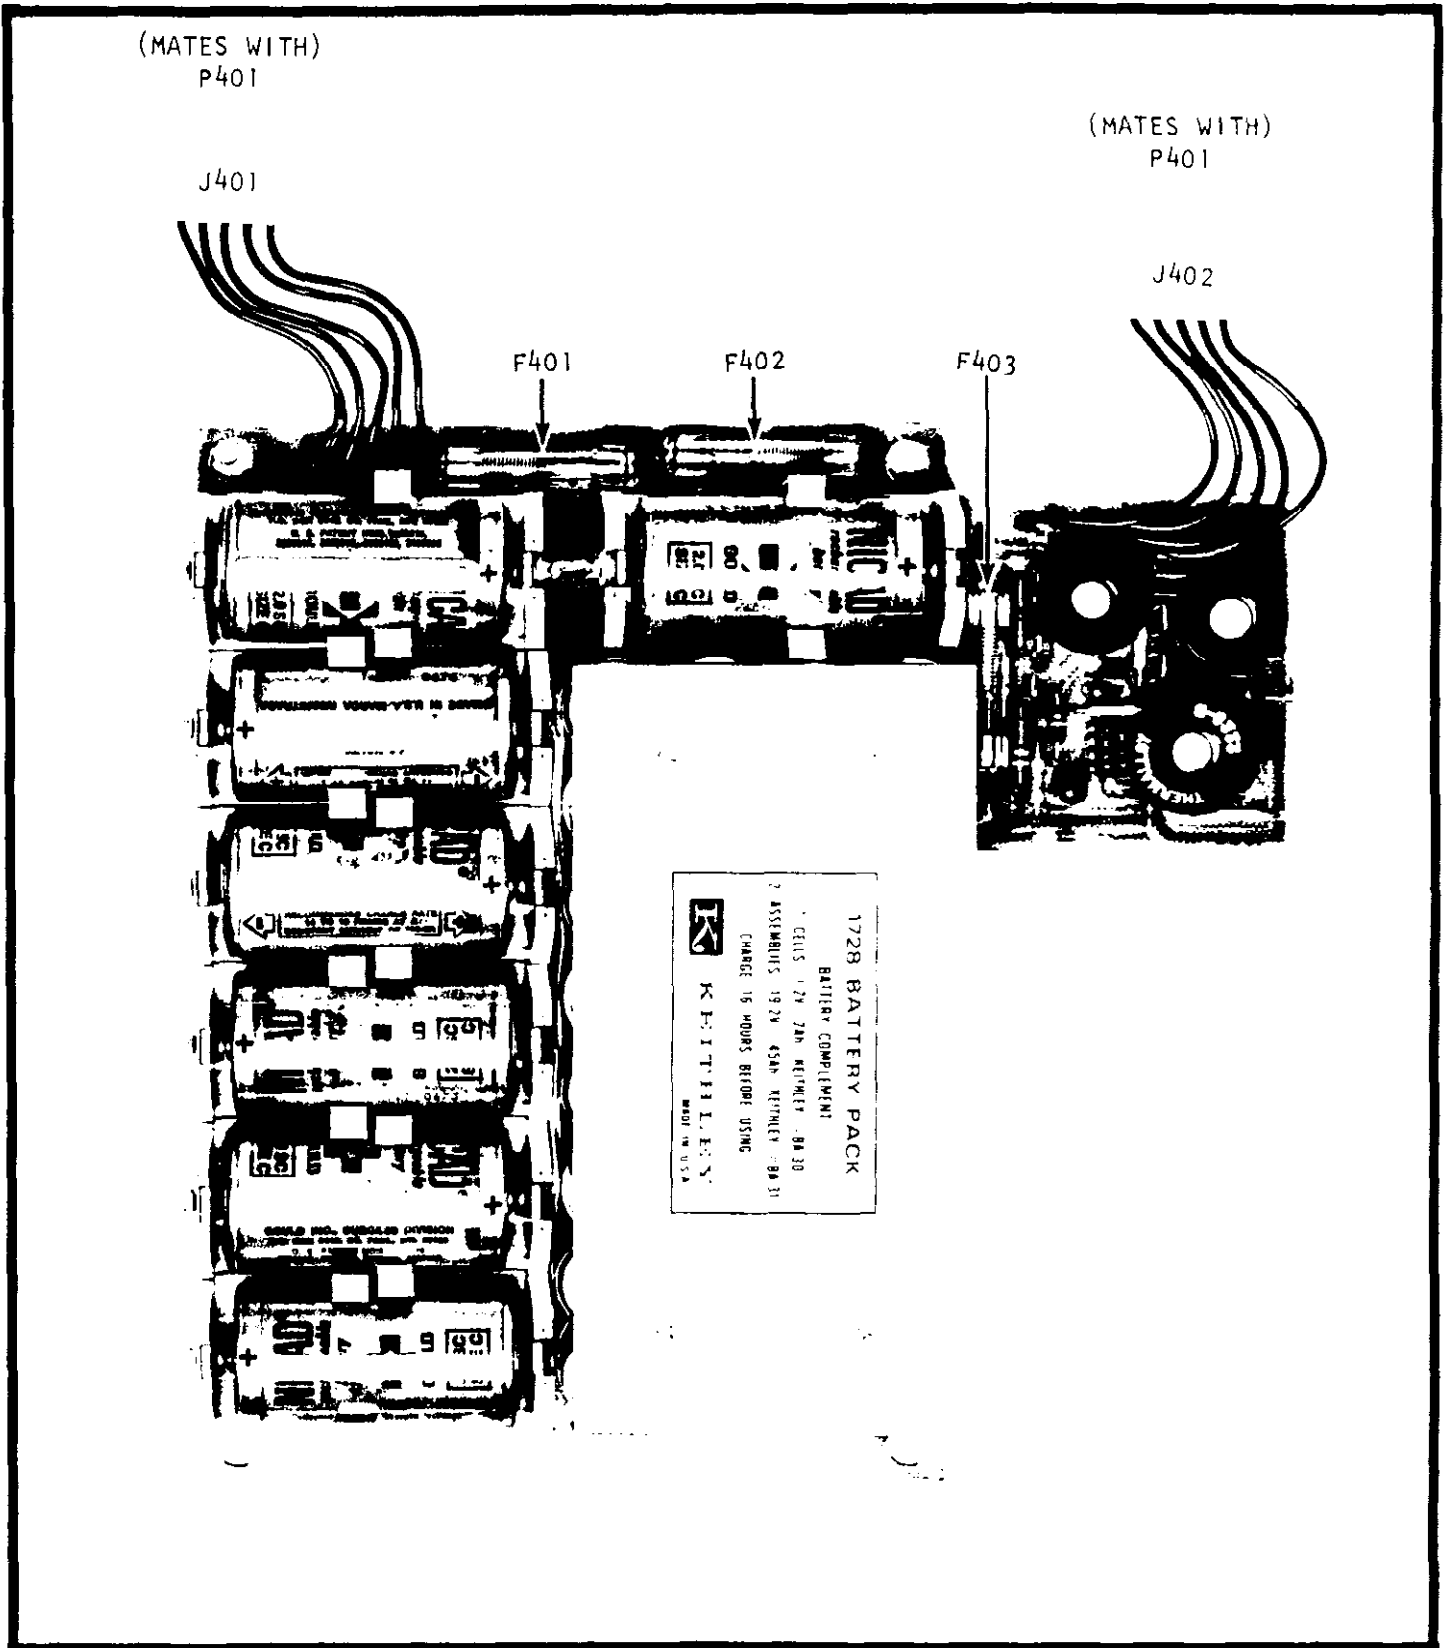

FIGURE 8. Model 1728 Rechargeable Battery Pack.
a. How to Install the Model 1728 Rechargeable Battery Pack. The batteries furnished with the Model 1728 are already installed in the battery pack. The battery pack includes 7 rechargeable "C" cells (1.2V, 2 AMP Hr) and two 19.2 volt packs (sixteen 1.2V cells per pack). See Figure 8.